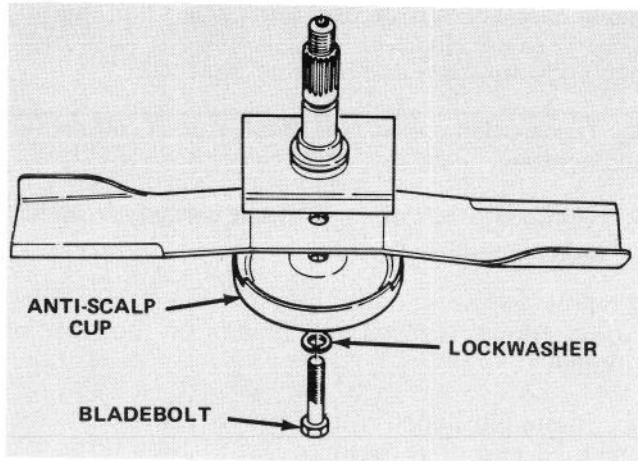

Figure 22
2. Grasp end of blade using a rag or thickly padded glove. Remove bladebolt, lockwasher, anti-scalp cup and blade from spindle shaft (Fig. 22).